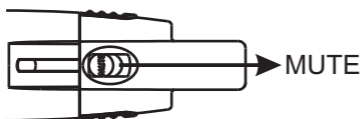

Fig. 18
2. OFF...appears during power off, Fig. 18.